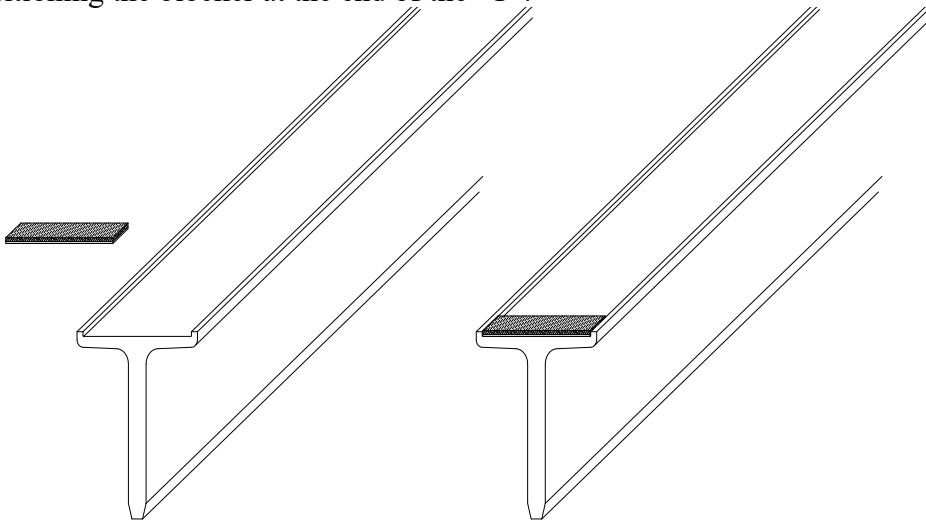

Figure 4
2. If your system is using Silvis Seals, you must apply them to the Sanislope T's now. Orient the "T" as shown in Figure 4. Apply the end blocker by peeling off the backing strip and positioning the blocker at the end of the "T".